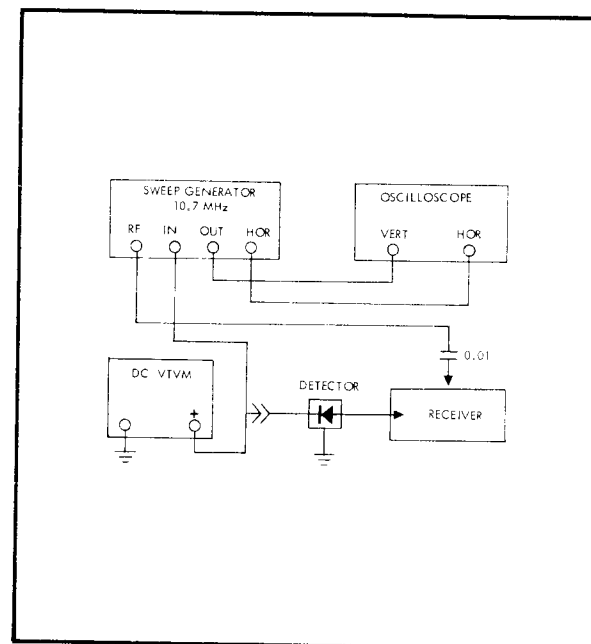

Figure 7. Initial Test Equipment Set-Up
1. The initial test set-up is shown in Figure 7. The following test equipment is required to align the FM section of the 911A:
4. Set up the test equipment in accordance with Figure 7.